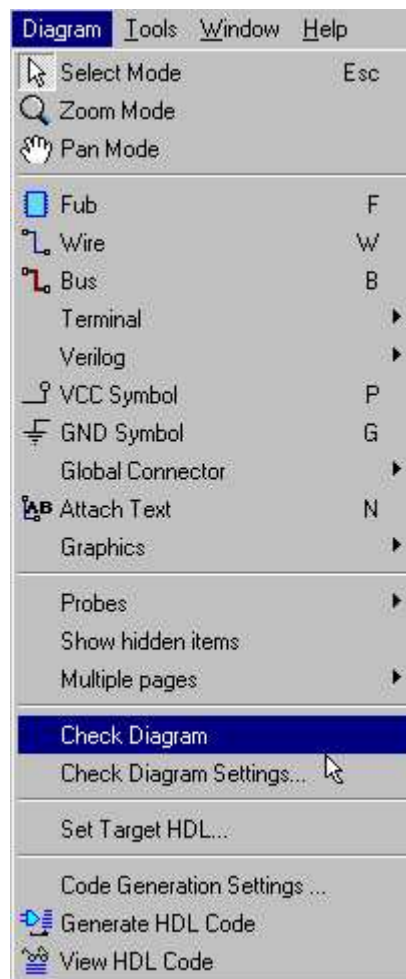
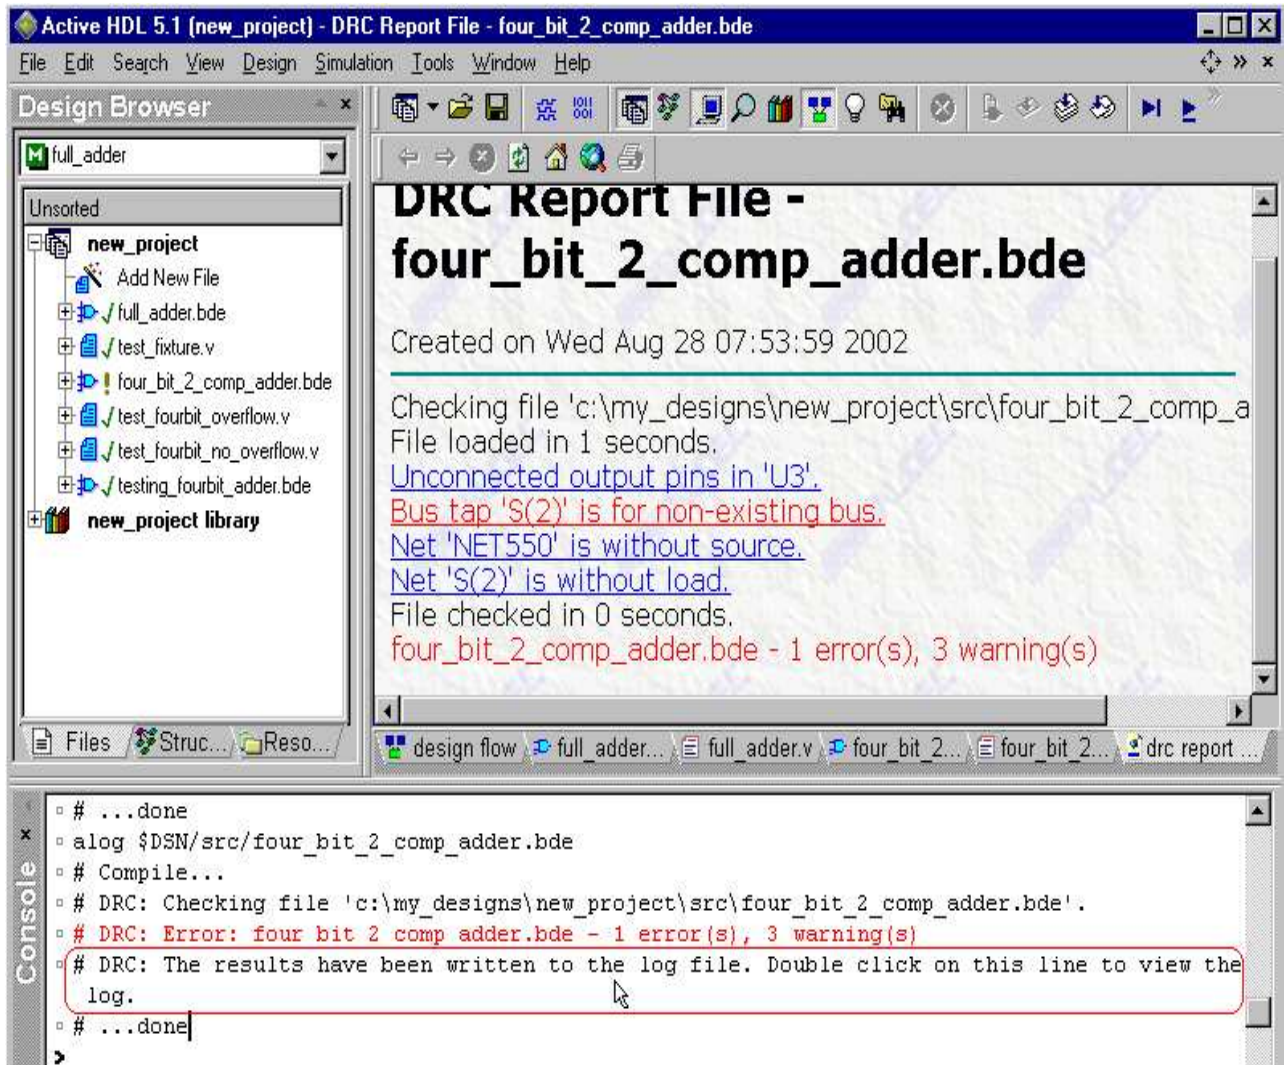

Figure 25
Figure 27
2. Active-HDL provides a “Check Diagram” tool. This tool will verify that the components are connected properly by printing the results into the Design Rule Check report (DRC). To open this report, go to the Console and double-click the line that states, “Double click on this line to view the log” (see Figure 27 in the DRC section). The DRC report is explained later in this tutorial. Always use the “Check Diagram” tool prior to compiling by clicking the Diagram/Check Diagram option in the menu bar (see Figure 25).
When you run the check diagram tool, a DRC report file is created. Open this file by going to the DRC line in the Console and double-click the appropriate line (see Figure 27 on the next page). This file will list any errors or warnings your design might contain, such as unconnected ports, mislabeled wires and/or terminals, and other connection-related errors/warnings. Each error/warning in the report is a hyperlink that will take you
to the problematic component in your design. Figure 27 shows an example of a DRC report file for a schematic with an error and some warnings.